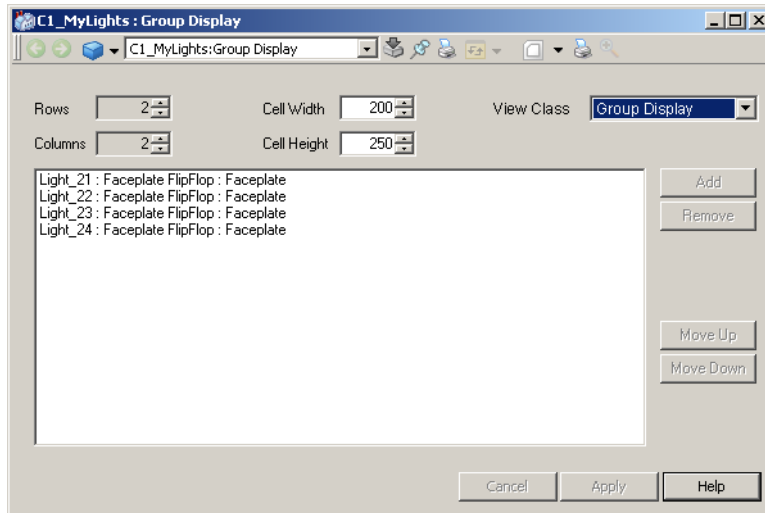

Figure 95. Group Display - Config View with Added Aspects
6. Add as many aspects as you decided in the Config View. The selected objects and views will be visible in the list, see Figure 95.